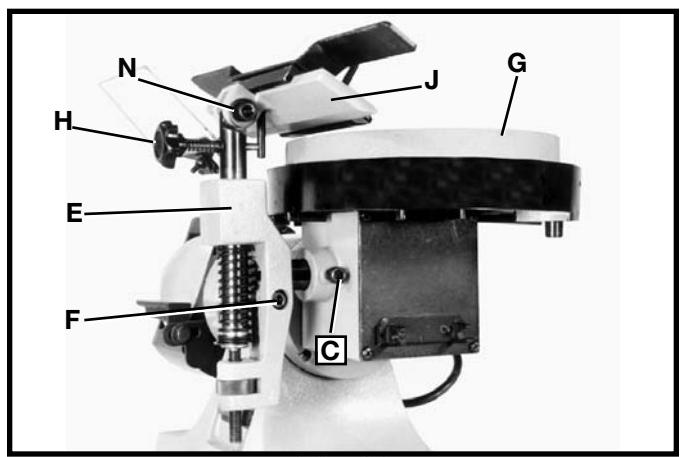

Fig. 17
8. To raise or lower the tool and chisel holder assembly (E) Fig. 17, refer to STEP 5.
9. To tilt the tool and chisel holder (J) Fig. 17, to conform with the angle of the tool to be sharpened, loosen set screw (N) and turn knob (H) as necessary. After angle is set, tighten set screw (N).
10. To move the tool and chisel holder (J) Fig. 17, in or out, loosen set screw (C), and slide assembly (E) in or out as desired. After adjustment, tighten screw (C).
11. To level tool and chisel holder base (J) Fig. 17, with the wet grinding wheel (G), loosen screw (F) with supplied wrench, and rotate complete base assembly (E) until tool and chisel holder base (J) is level with wet grinding wheel (G), and tighten screw (F).